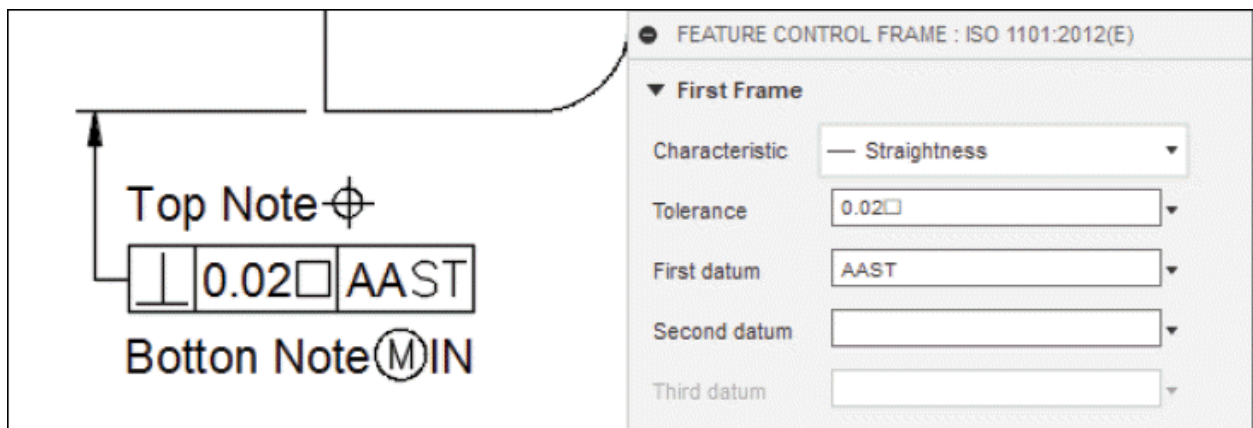

Figure-102. Specifying datum value
- Click on the **First datum** edit box and enter the value of datum as required; refer to Figure-102.